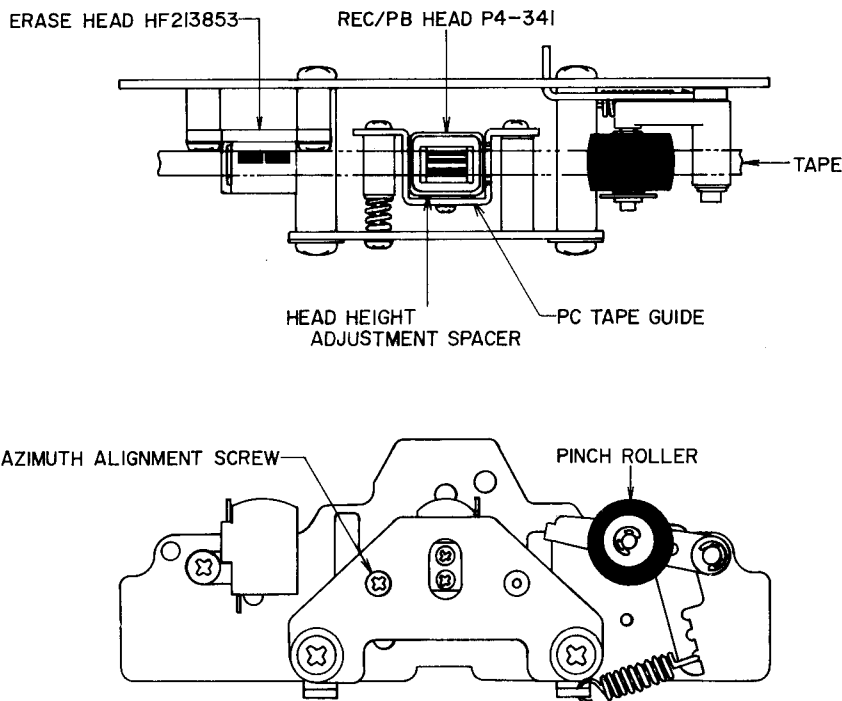

Fig. 8
1. RECORDING/PLAYBACK HEAD HEIGHT ADJUSTMENT (Refer to Fig. 8)
2. RECORDING/PLAYBACK HEAD AZIMUTH ALIGNMENT ADJUSTMENT (Refer to Fig. 8)
Playback a 10 kHz recorded test tape and adjust Azimuth Alignment Screw shown in Fig. 8 to obtain maximum output on both channels.